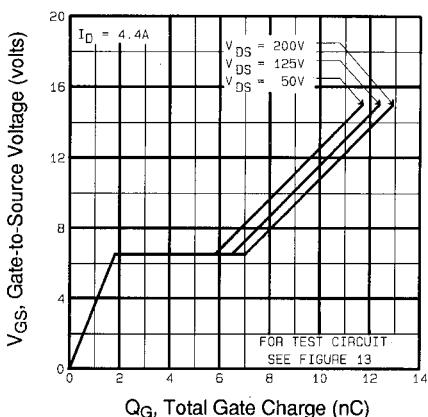

Fig 6. Typical Gate Charge Vs.
| Q_{gd} | Gate-to-Drain ("Miller") Charge | — | — | 7.8 | | $V_{GS}=10\text{V}$ See Fig. 6 and 13 ④ |